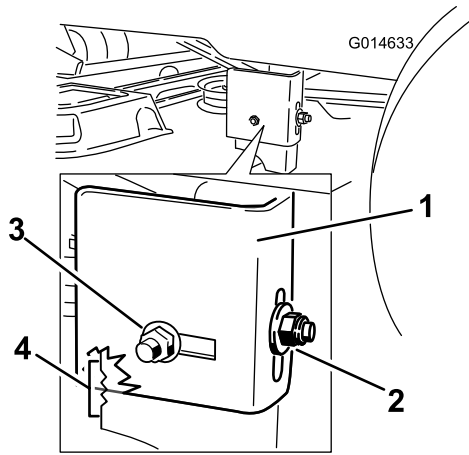

Figure 52
- Loosen the rear locking nut on the hanger bracket just enough to move the bracket (Figure 52).
- Stop the deck at the adjusted position and tighten the rear locking nut on the hanger bracket to hold the new position (Figure 52). Tighten the side locking nut on the hanger bracket.